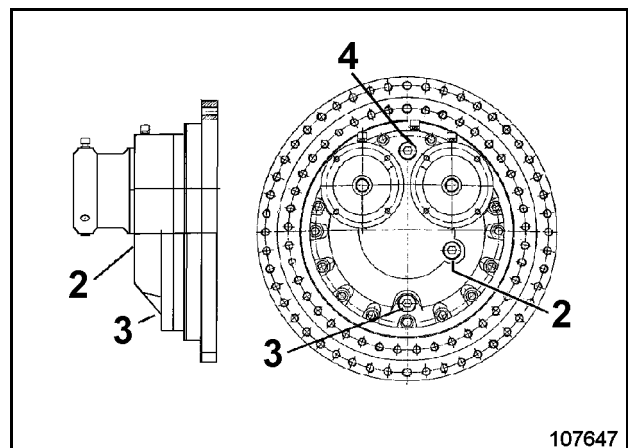

Fig. 3-86:
- Unscrew drain plug (3, Fig. 3-86:) and drain off the oil completely.